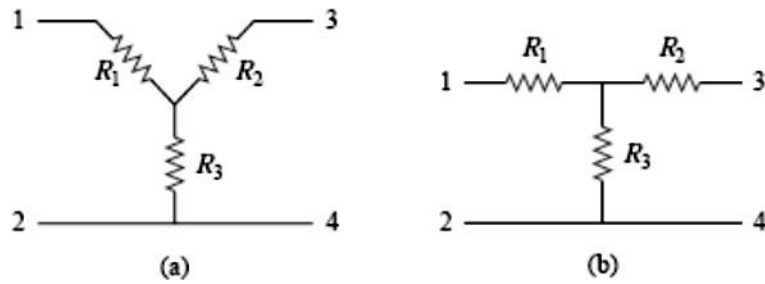

Figure 1 Two forms of the same network: (a) Y, (b) T.
Circuit configurations are often encountered in which the resistors do not appear to be in series or parallel .1Jnder these conditions, it may be necessary to convert the circuit from one form to another. Two circuit configurations that often account for these difficulties are the vye (Y) interconnection because the interconnection can be shaped to look like the letter Y. The (Y) configuration also is referred to as tee (T) structure without disturbing the electrical equivalence of the two structures and delta (Δ)in which the interconnection looks like the Greek letter (Δ) . It also is referred to as pi (Π) interconnection without disturbing the electrical equivalence of the two configuration depicted in Figures 1 and 2.
Suppose it is more convenient to work with a **wye** network in a place where the circuit contains a **delta** configuration. We superimpose a **wye** network on the existing **delta** network and find the equivalent resistances in the **wye** network. For terminals 1 and 2 in **Figs. 1** and **2**